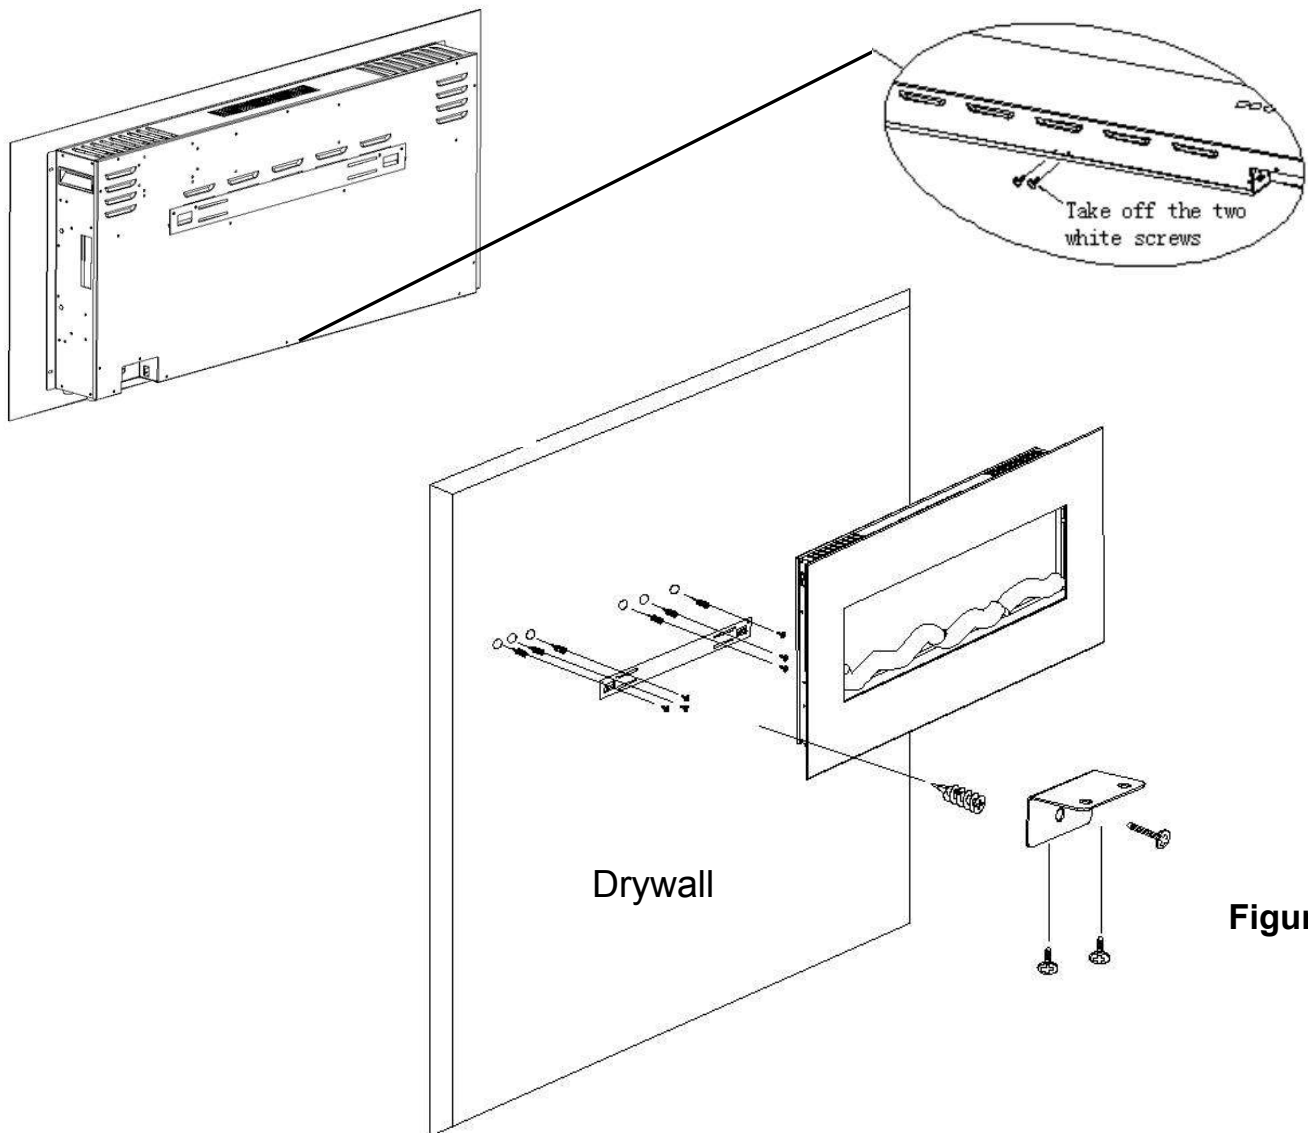

Figure 2.
B. Take off the two white screws on bottom of the fireplace box, then installed the ‘L’ shape mounting bracket one side to attached the bottom of fireplace with the two white screws, another side to attached to wall with one **Drywall anchors (C)** & **Wood screw (B)** to lock them tightly. **Figure 2.**